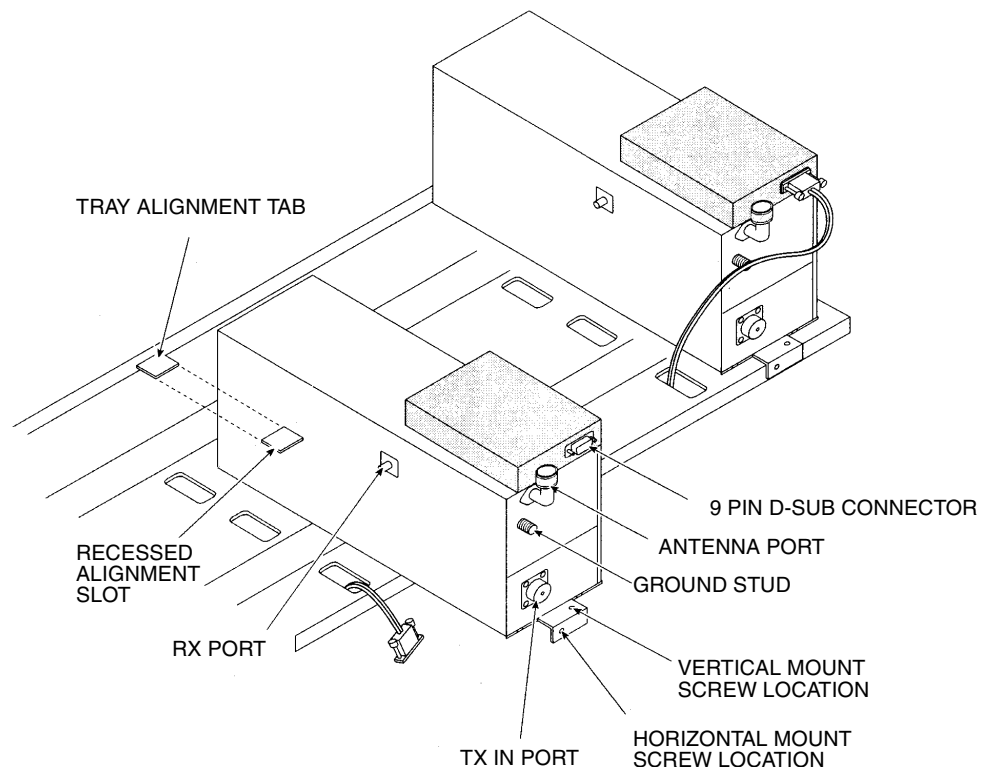

Figure 1 **Duplexer Removal and Replacement**
5. On front of the duplexer tray, remove two TORX™ screws that secure the duplexer at its front (see Figure 1). Save screws for reuse.